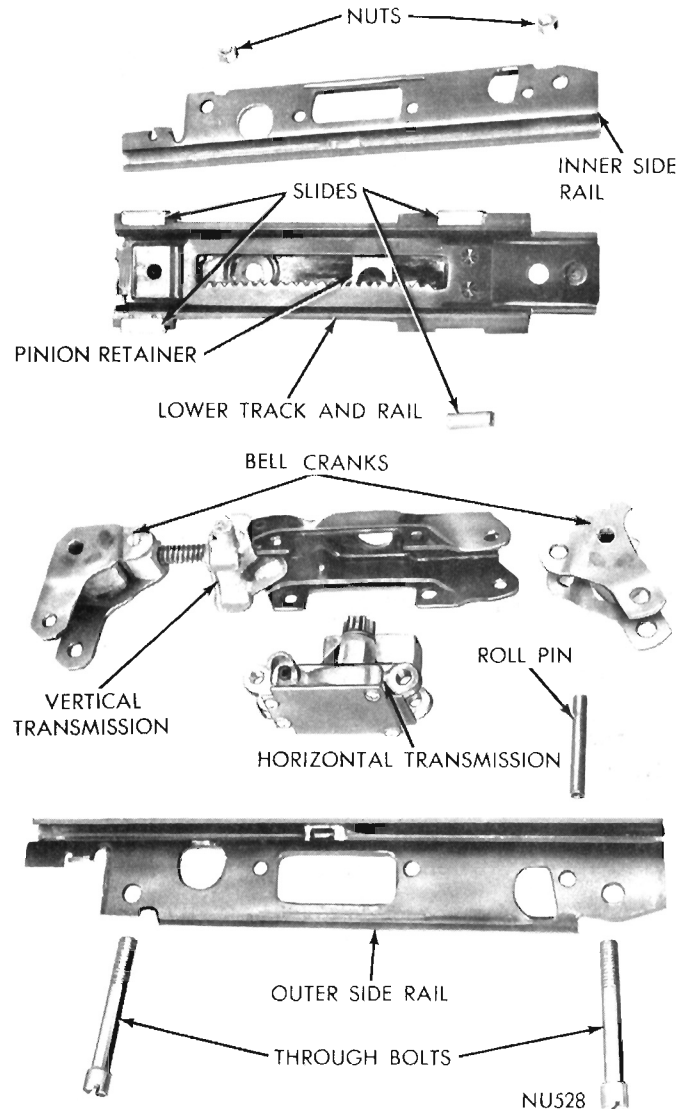

Fig. 6 - Side Rail (Disassembled)
(4) After clevis pin is removed slowly release the tension on the vertical spring.
(5) Remove cotter key and rear (3/8 inch) clevis pin and upper channel assembly.
(6) Remove horizontal spring.
(7) Remove the through bolts from each end of the side rail assembly.
(8) Remove the through bolts from the transmission assemblies and separate rails and transmission assemblies (Fig. 6).